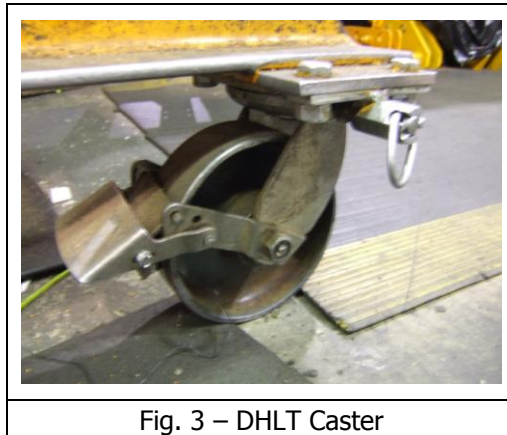

Fig. 3 – DHLT Caster
- 2.1.1. Ensure that both the caster's pivot and wheel locks are engaged (See Fig. 3).